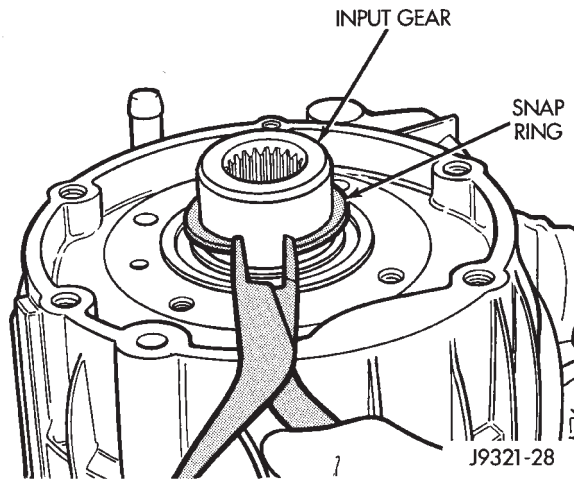

Fig. 33 Input Gear Snap-Ring Removal
- (4) Remove snap-ring that retains input gear shaft in front bearing (Fig. 33).